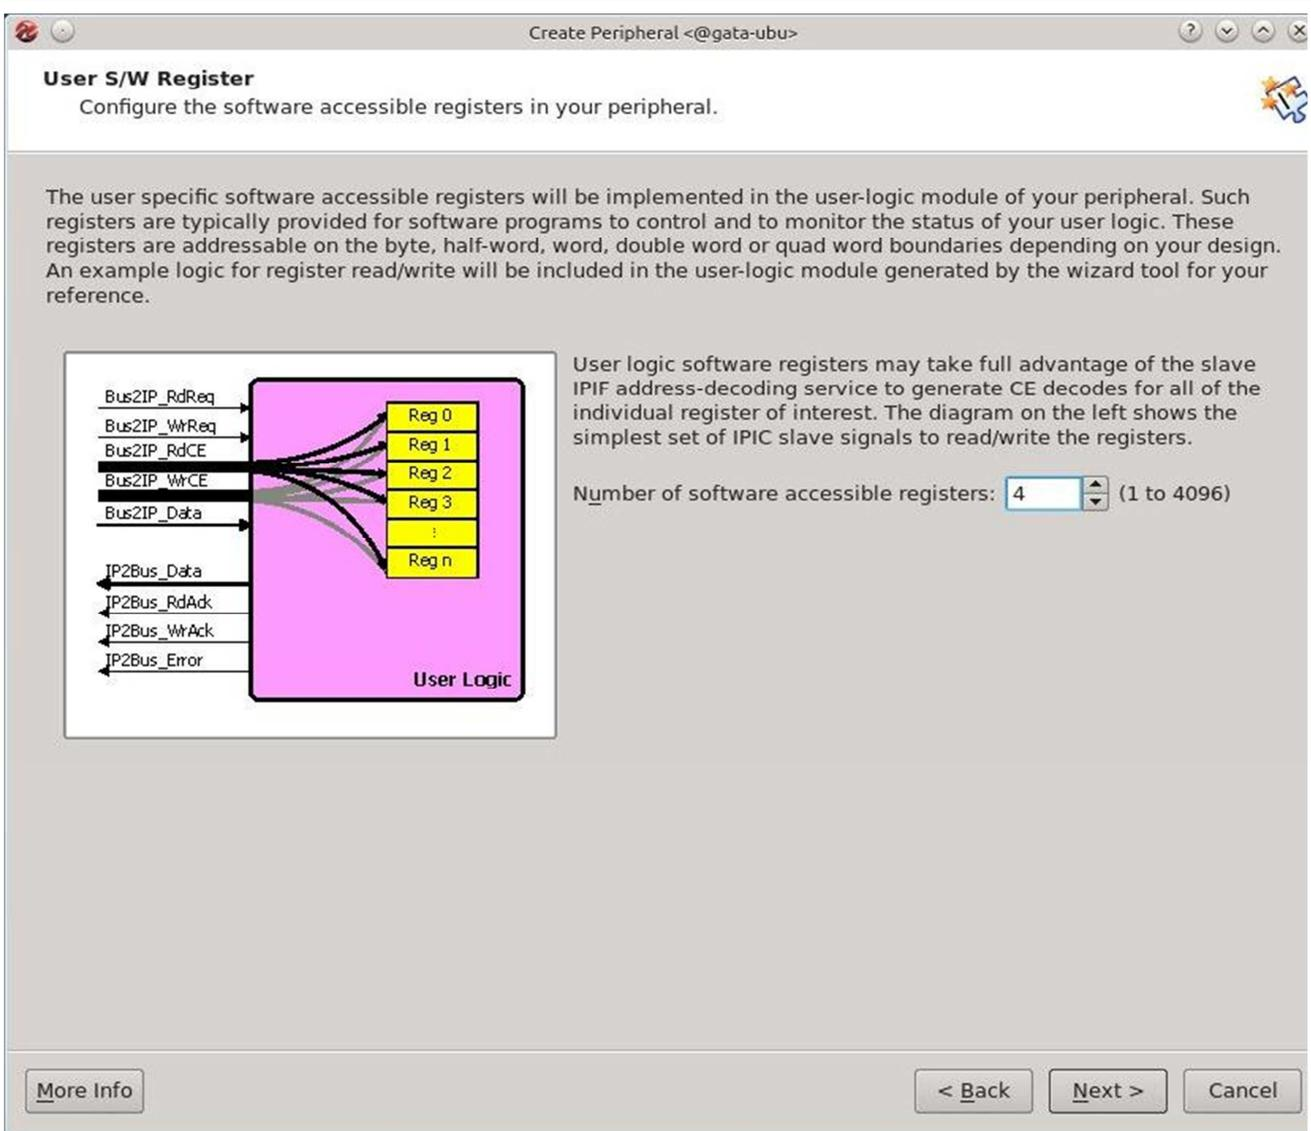

Figure 9: Create and Import Peripheral Wizard (Step 8)
Step 8: In the previous step you configured the new core to have built in software registers. The wizard will create the necessary logic inside your core to have read/write registers. In this step you are asked to specify the number of registers in your design as seen in **Figure 9**. Select “4” to add for registers to your design and then press “**Next**” to continue.